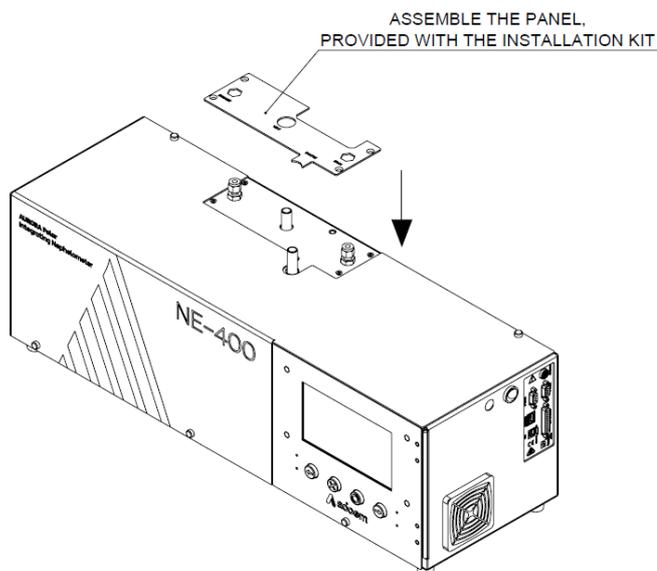

Figure 38 – Wall Mount Bracket Installation Step 2
Step 2: Replace the anti-rotation panel with the new panel supplied with the wall mounting bracket. This new panel has a rectangular cutout for the top of the wall mounting bracket. Insert the four M5 CSC screws and tighten to hold the new anti-rotation panel. See Figure 38.